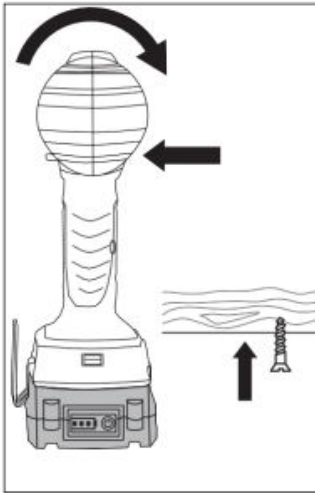

Fig.5
1. To set the tighten rotation direction, press the forward / reverse rotation control switch through to the left stop (**Fig. 5**).